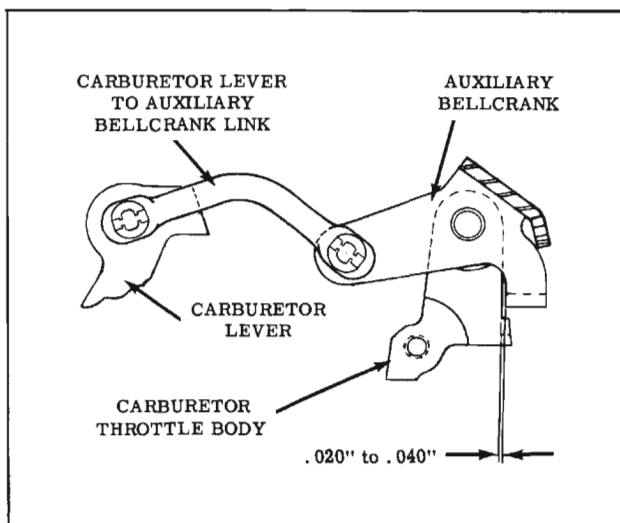

Fig. 11-3 Carburetor Lever to Auxiliary Bellcrank Adjustment (4 Barrel)
### THROTTLE CONTROL ADJUSTMENT (Fig. 11-3)
- a. 4GC - With the use of a feeler or wire gauge, measure distance between machined surface of carburetor throttle body and the auxiliary bellcrank gauging tang. Clearance should be  $.020"$  to  $.040"$ . If adjustment is necessary, remove auxiliary bellcrank link and bend as required. Install link and recheck clearance. (Fig. 11-3)